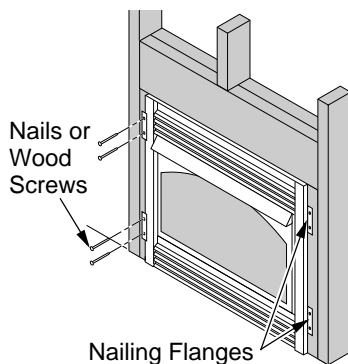

Figure 16 - Attaching Fireplace Insert to Wall Studs
7. Attach fireplace to wall studs using nails or wood screws through holes in nailing flange (see Figure 16).